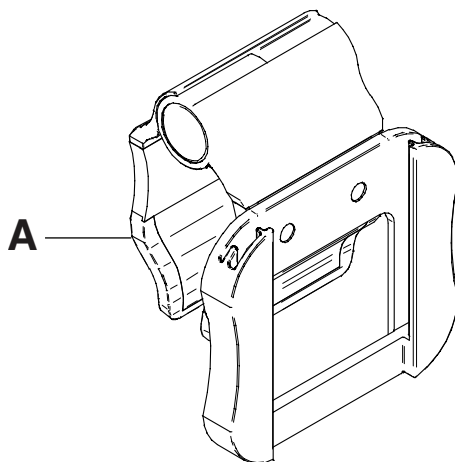

Figure 124: Patient control pendant clip
1. Raise the clip (A) (Figure 124 on page 112).